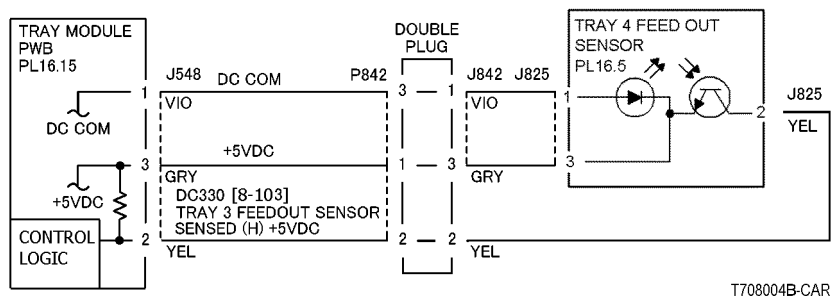

Figure 1 7-122 RAP Circuit Diagram - Tray 4 Feedout Sensor
- Ensure that the connectors shown in the circuit diagram (Figure 1) are securely connected and that the wires are not damaged.